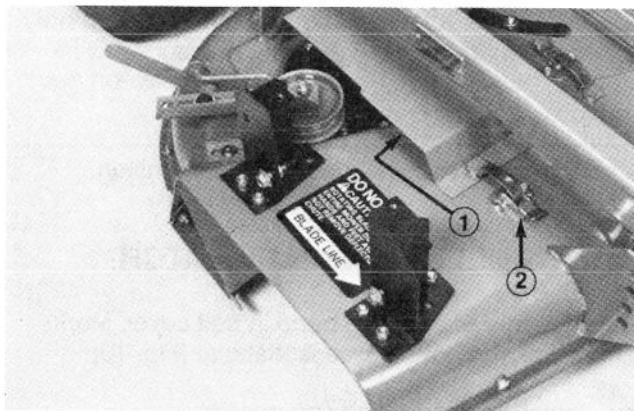

Figure 11
3. Install new spindle pulley cover on cutting deck (Fig. 11).
4. Hook latch to front of cover and engage latch (Fig. 11).
5. Locate and mark position of latch mounting holes on deck. Drill (2) 7/32" dia. holes thru deck. Secure latch to deck with (2) machine screws and flange nuts (Fig. 11).
6. Apply warning decal to deck nest to blower assembly (Fig. 11).